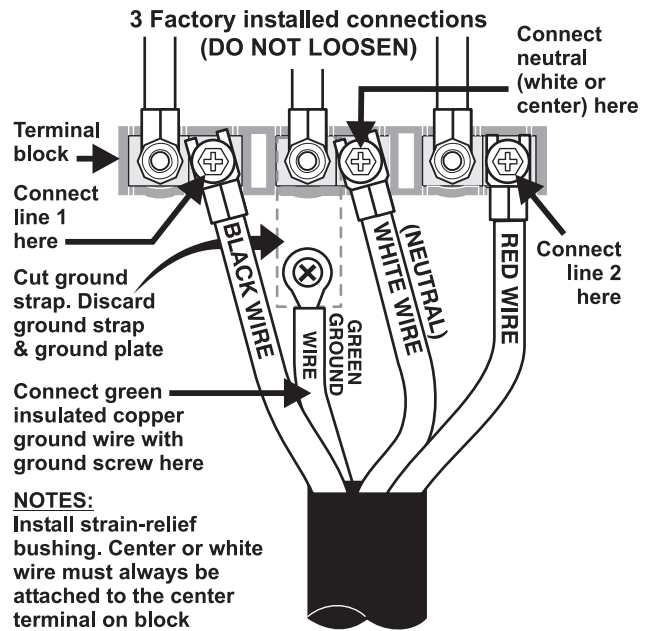

Fig. 33
B Wiring instructions (4-wire connection - See fig. 33)
4. Connect the ground wire (Green) lead with the eyelet to the frame of the appliance with the ground screw using the same hole in the frame where the ground screw was originally installed (See Fig. 33).